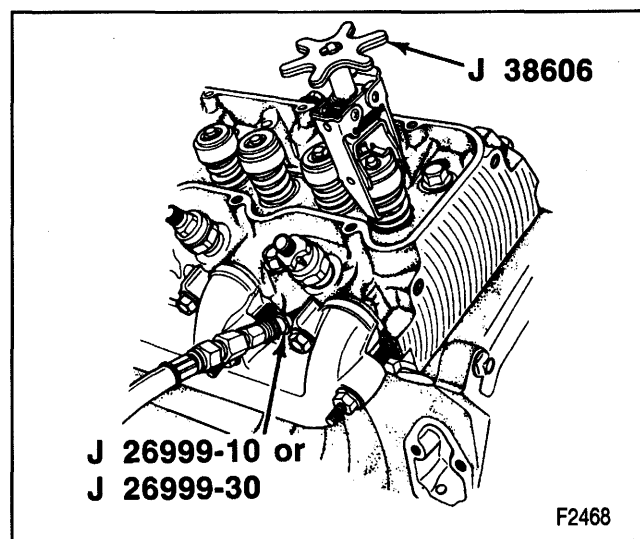

Figure 16—Compressing the Valve Spring
- Valve keepers (406).
- D. Use J 38606 to compress the valve spring (figure 16). If the spring will not compress, tap on the tool lightly with a mallet to break the cap or rotator loose from the valve keepers.
- A. With air pressure applied to the cylinder using J 26999-10 (C and K models) J 26999-30 (K models with quad front shocks), compress the valve spring with J 38606 (figure 16).